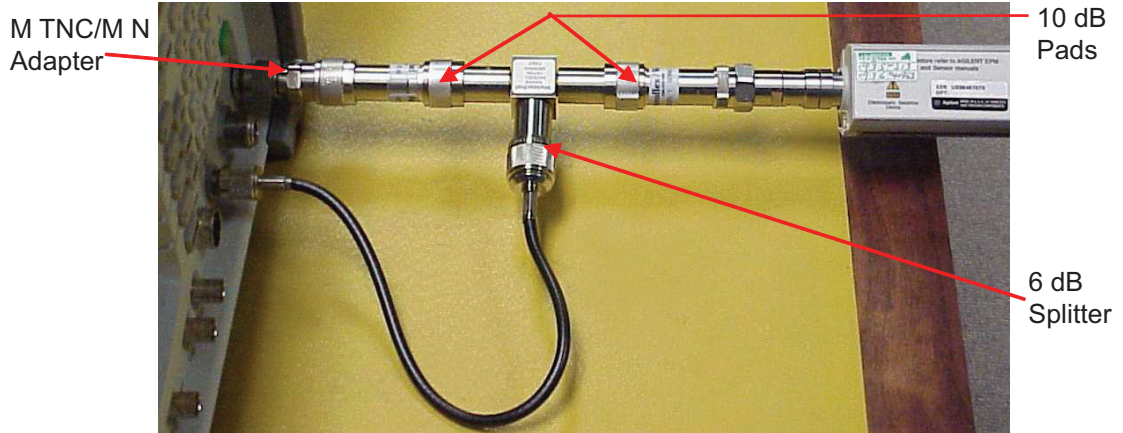

Fig. 4-24 ANT Port 0-30 dB Calibration Setup
3.	Configure equipment. Refer to Fig. 4-24 as needed.